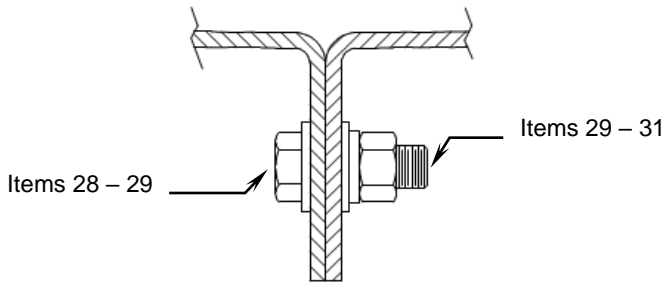

Figure 20: Reflector Seam Hardware Detail
- Location A = (items 23, 25, 26)
- Location B = (items 22, 25, 26)
- Location C = (items 24, 25, 26)
18. Secure Quad 1 and 2 together with 3/8" hardware (items 28 – 31). See Figure 20, Reflector Seam Hardware Detail, Page 17.
22. Secure Quad 4 and 1 together with 3/8" hardware (items 28 – 31). See Figure 20, Reflector Seam Hardware Detail, Page 17.
26. Secure Quad 3 and 2, and Quad 3 and 4 together with 3/8" hardware (items 28 – 31). See Figure 20, Reflector Seam Hardware Detail, Page 17.